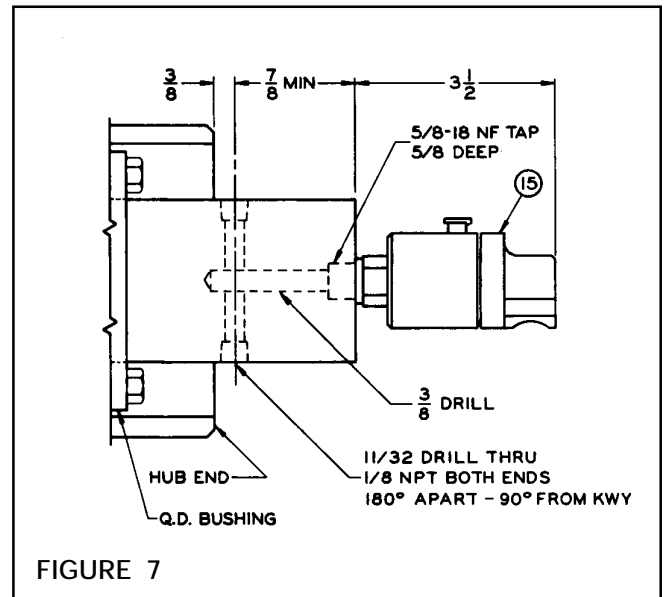

FIGURE 7
2. Tap the end of the Shaft $\frac{5}{8}$ -18 by $\frac{5}{8}$ " deep (See Fig. 7).
3. Drill a $\frac{11}{32}$ " diameter air outlet hole through the Shaft; intersecting the air inlet hole approximately $\frac{3}{8}$ " from the end of the Hub (See Fig. 7).
4. Tap both air holes $\frac{1}{8}$ -27 NPT by $\frac{5}{8}$ " deep. (See Fig. 7).
8. Install the Rotary Air Union (Item 15) (See Fig. 7).